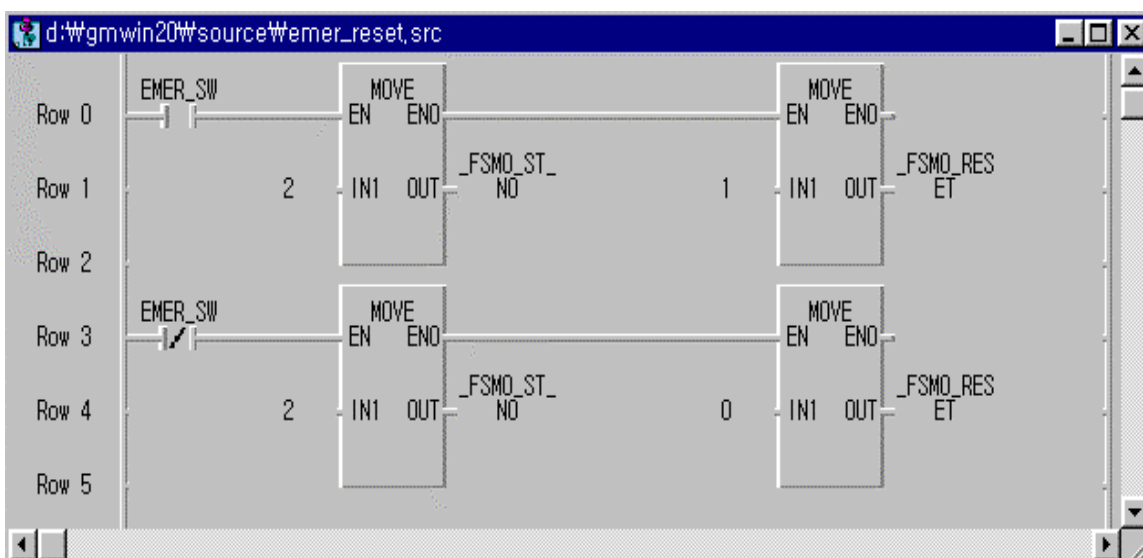

Fig. 6.6.4(C) Reset program of all output in appropriate remote station when emergency occurred
Fig. 6.6.4(C) is an example of program that simultaneously resets digital and special module output of remote I/O when EMER\_SW contact of PLC CPU is set to 'On' in remote system of Fig. 6.6.4(A). To reset all I/O while it is set to 'On' as level input and to perform normal operation, special module initialization should be performed again using initialization *function block* of special module. If \_FSM\_RESET is '1', only output is set to 'Off' and communication maintains normal operation.